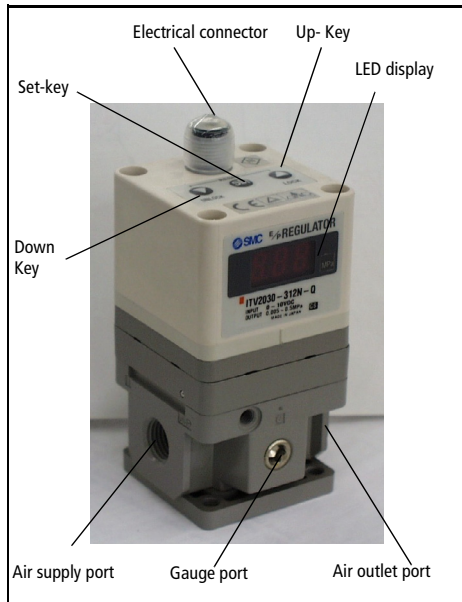

Fig 1
Push 'Up' and 'Down' keys (Fig 1) together for longer than 3 seconds. Display shows 'RES'. Release keys to reset minimum pressure, maximum pressure and switch outputs P1 & P2 to start condition.
- To set minimum pressure (display shows F-1) use up/down keys (Fig 1) and press 'Set' key (Fig 1) to 'Lock' setting.
- To set maximum pressure (display shows F-2) use up/down keys (Fig 1) and press 'Set' key (Fig 1) to 'Lock' setting.
- To set switch output 1 (display shows P-1) use up/down keys (Fig 1) and press 'Set' key (Fig 1) to 'Lock' setting.
- To set switch output 2 (display shows P-2) use up/down keys (Fig 1), and press 'Set' key (Fig 1) to 'Lock' setting.
'Loc' is indicated on Display (Fig 1) when any keys are pushed.
- Push 'Down' key (Fig 1) for longer than 2 seconds.
- Push 'Set' key (Fig 1) to unlock.
**Note: To cancel push 'Up' key (Fig 1).**
- Push 'Up' key (Fig 1) for longer than 2 seconds.
- Push 'Set' key (Fig 1) to lock.
**Note: To cancel push 'Down' key (Fig 1).**
If an abnormality is detected by the ITV2000 the LED display (Fig 1) will show 'Er' followed by a code number. Isolate the power supply and ascertain and solve the problem. Re-instate power supply after correcting fault.